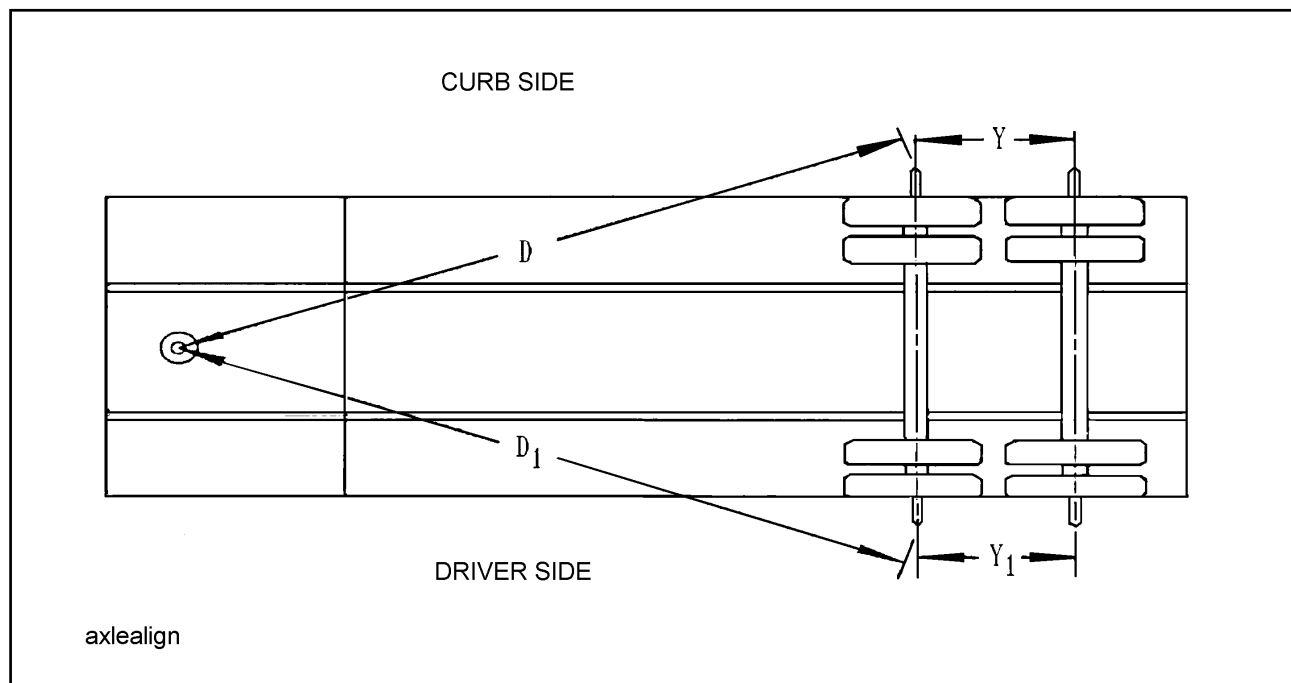

Figure 4-9 Checking Axle Alignment
4. Measure (D) from the plumb bob to the center point on one end of the axle. Record this measurement (**See Figure 4-9**).
5. Measure (D1) to the other end of the axle in the same manner as in **Step 4**. Record this measurement (**See Figure 4-9**).